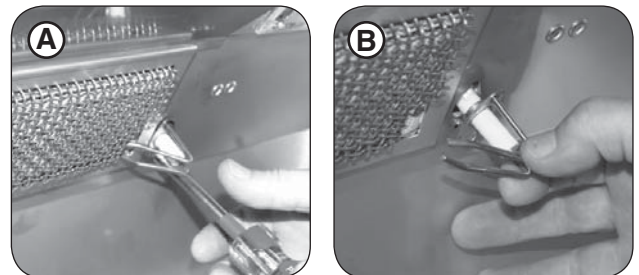

Fig. 29-2 Remove electrode
1. Remove the backburner electrode mounting screw (1/4" hex) (see Fig. 29-2, A) and loosen the electrode. Carefully pull the electrode assembly slightly from the grill wall to give enough clearance for the backburner to be removed (see Fig. 29-2, B).